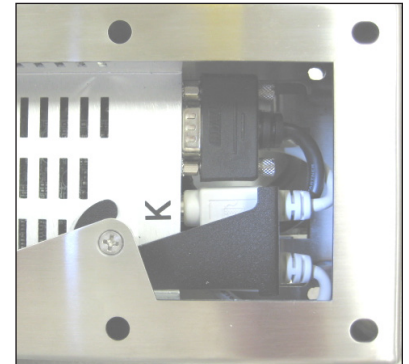

FIGURE 7
- Snap retention bracket into first groove of each PS2 cable strain relief as shown in Figure 7.